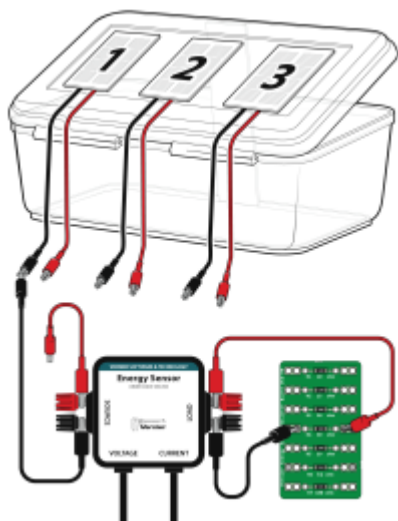

Figure 4
- a. Disconnect the red Solar Panel clip from the wire lead connected to the red Source terminal (see Figure 4).